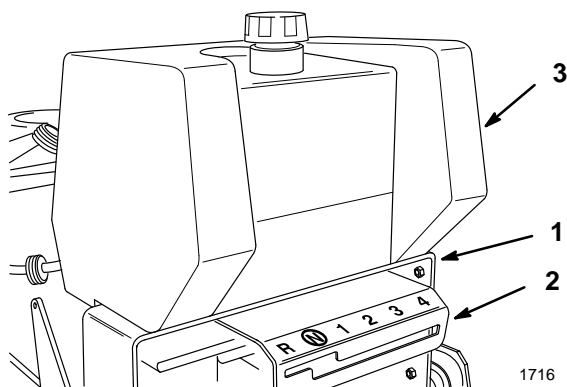

Figure 1
1. Position control panel under bottom of rear frame (Fig. 1). Align fuel tank to top of rear frame (Fig. 1).